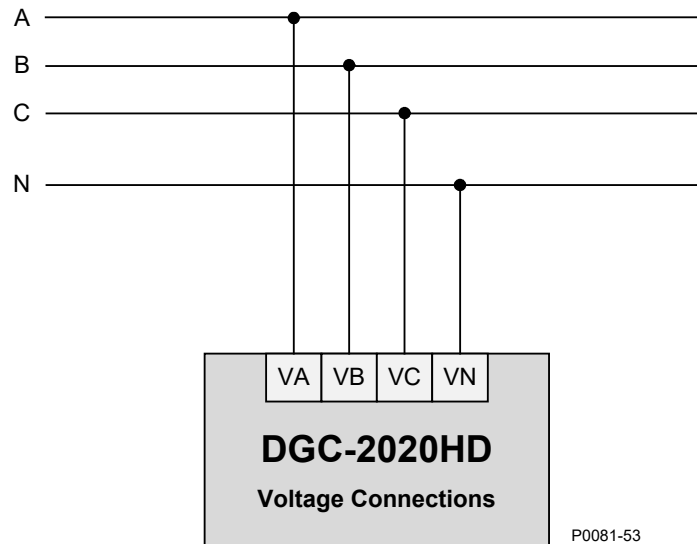

Figure 4-2. 3-Phase Wye Bus Voltage Sensing Connections
- Three-phase wye Figure 4-2
Figure 4-2 illustrates typical three-phase wye connections for all DGC-2020HD bus voltage sensing connections: Generator, Bus 1, and Bus 2. Use the terminal numbers listed below for connecting the desired bus type. Refer to the *Terminals and Connectors* chapter for rear panel terminal numbering.